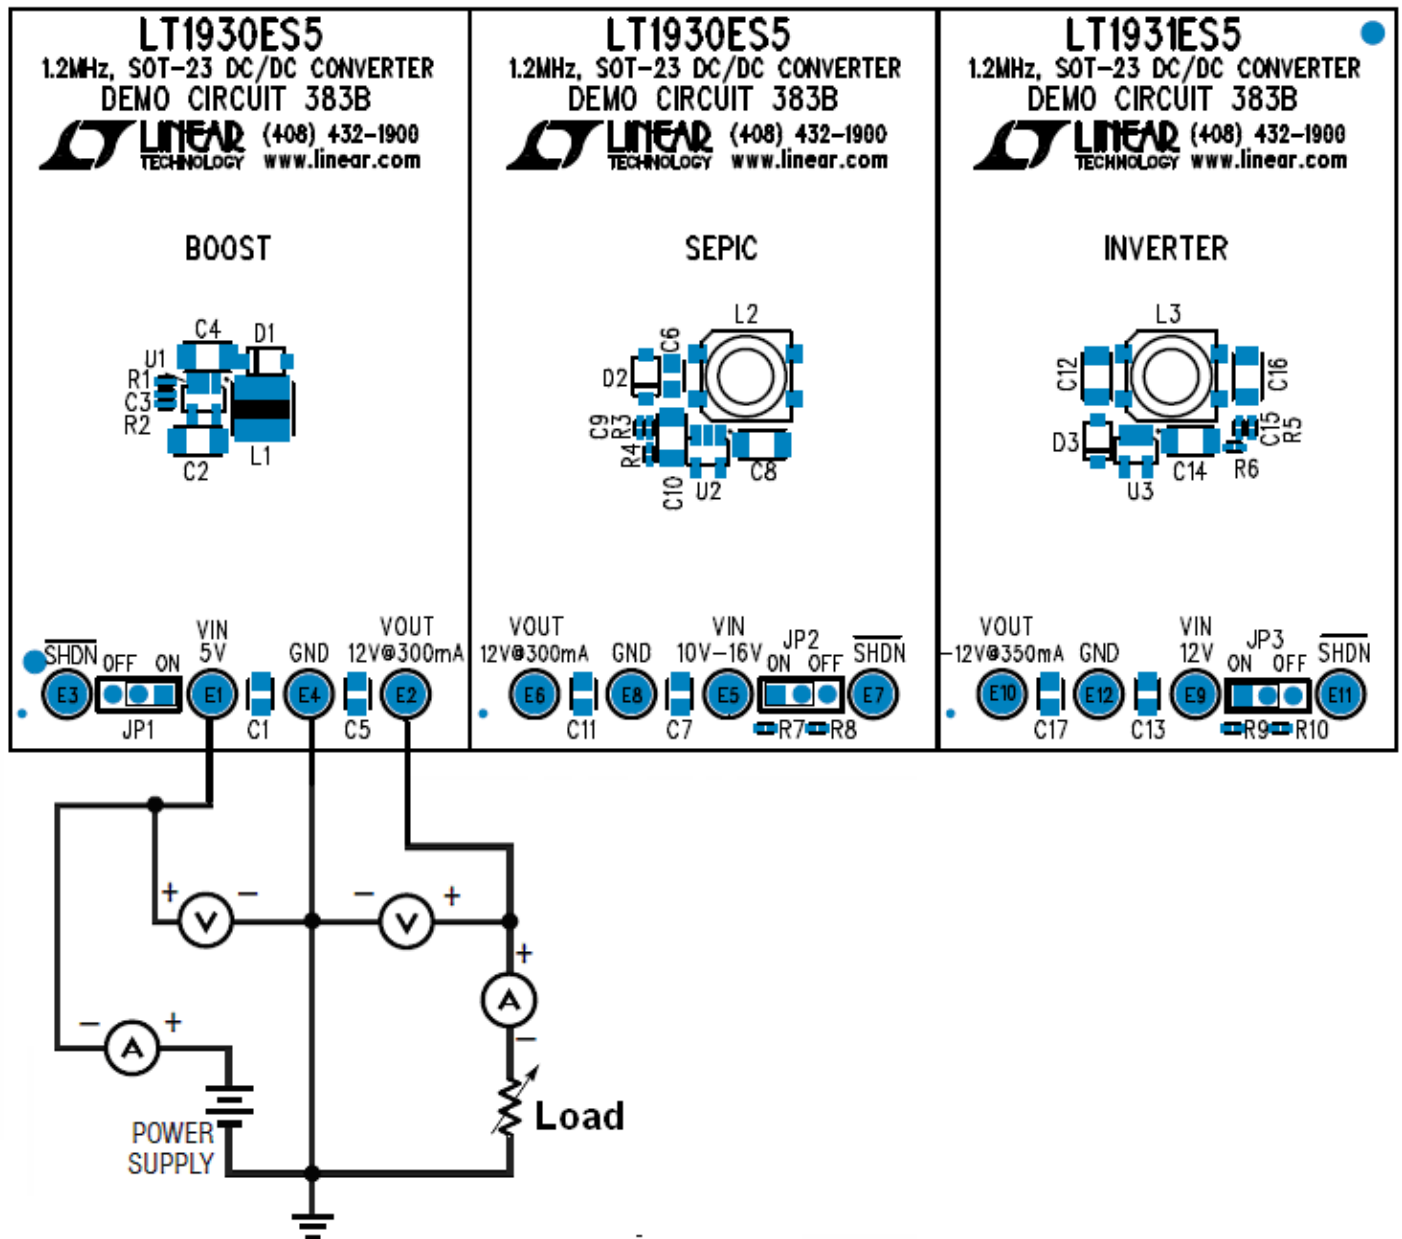

Figure 1. Proper Measurement Equipment Setup for Boost Converter
Refer to **Figures 1–4** for proper measurement equipment setup and follow the procedure outlined below:
1. Before turning on the power, connect a 5V, 1A bench supply to the Vin and Gnd terminals and connect the output loads (up to 300mA). When an electronic load is used, decrease load current setting to less than 100mA until the output voltage has stabilized. Connect an oscilloscope and meters to the Vout and Gnd terminals, as shown in Figure 1.